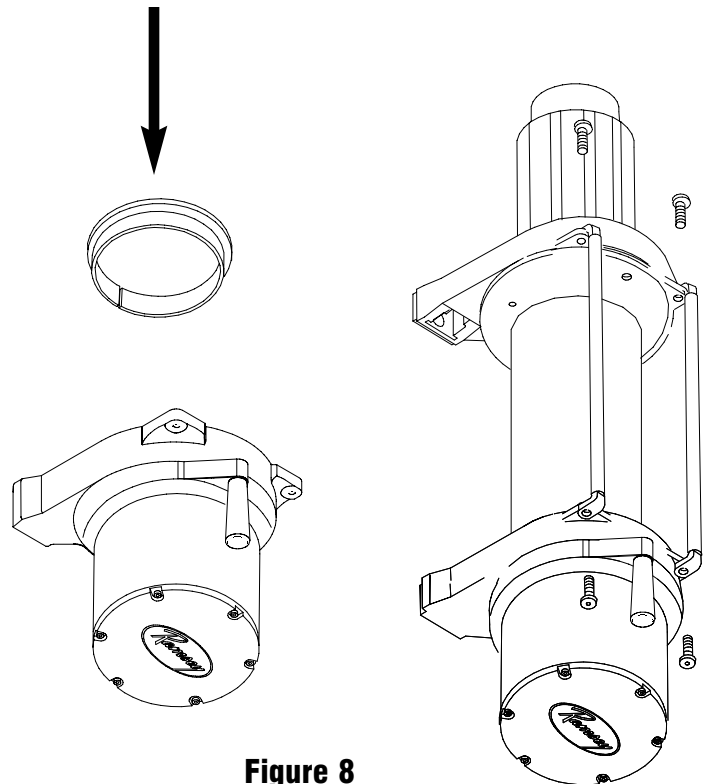

Figure 8
- Install the drum bushing into the Gear Housing, confirming that the slot in the bushing is aligned with the key in the end bearing. See Figure 8. Pick up the rest of the winch (drum and motor end), and holding the drum, lower the winch onto the gear end. Stab the shaft into the gear end--you may need to turn the drum slightly to get the shaft to go all the way in.
- Place the tiebars on the motor end and gear end and fasten using (4) screws. Tighten securely.